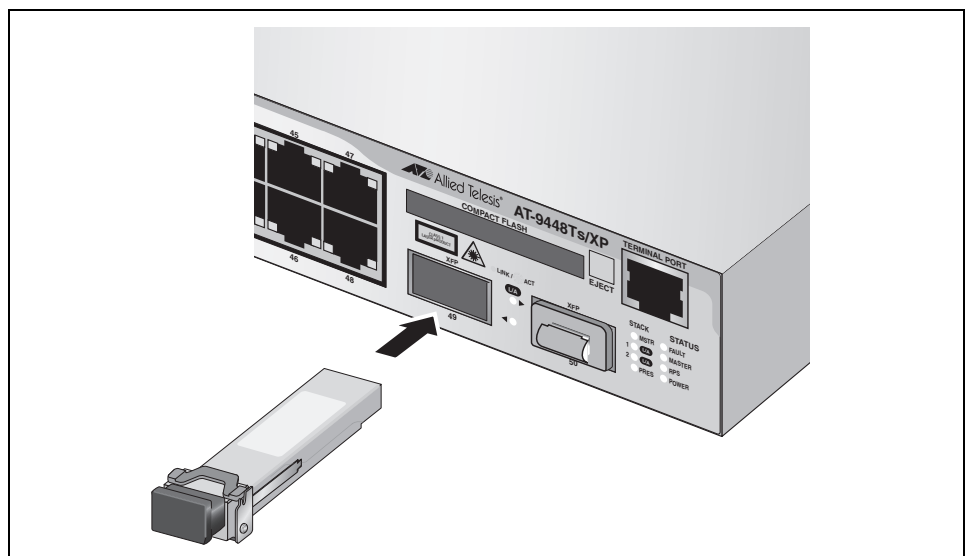

Figure 25. Installing an XFP Transceiver
4. Slide the transceiver into the slot until it clicks into place, as shown in Figure 25.